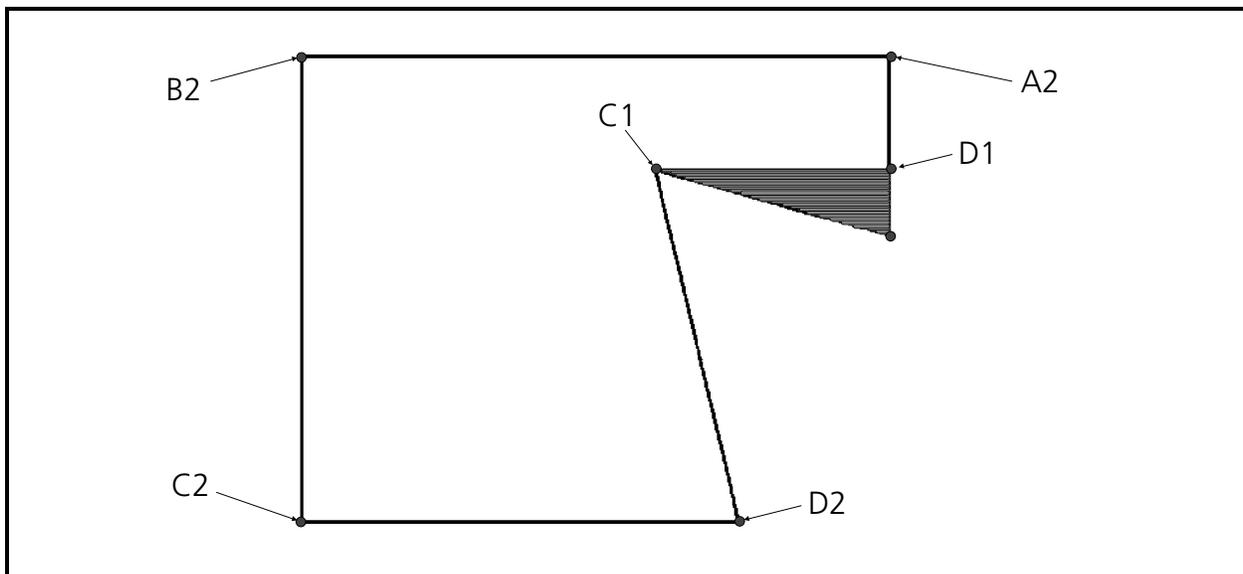

Figure 6-73
Now, as shown in Figure 6-73, the monitor will display the triangular section you just digitized in a fill pattern that enters at point A1 and exits at point D1. If you want the fill stitching to exit at the left of the triangle, you may interchange points C1 and D1 when you digitize.
3. Enter a Mk1 at A2 in the illustration in Figure 6-73 and another Mk1 at B2 to define the first line of the fill.
6. Now enter a Mk2 at point B2 in the illustration in Figure 6-73 to identify the start of the first side of the second fill.